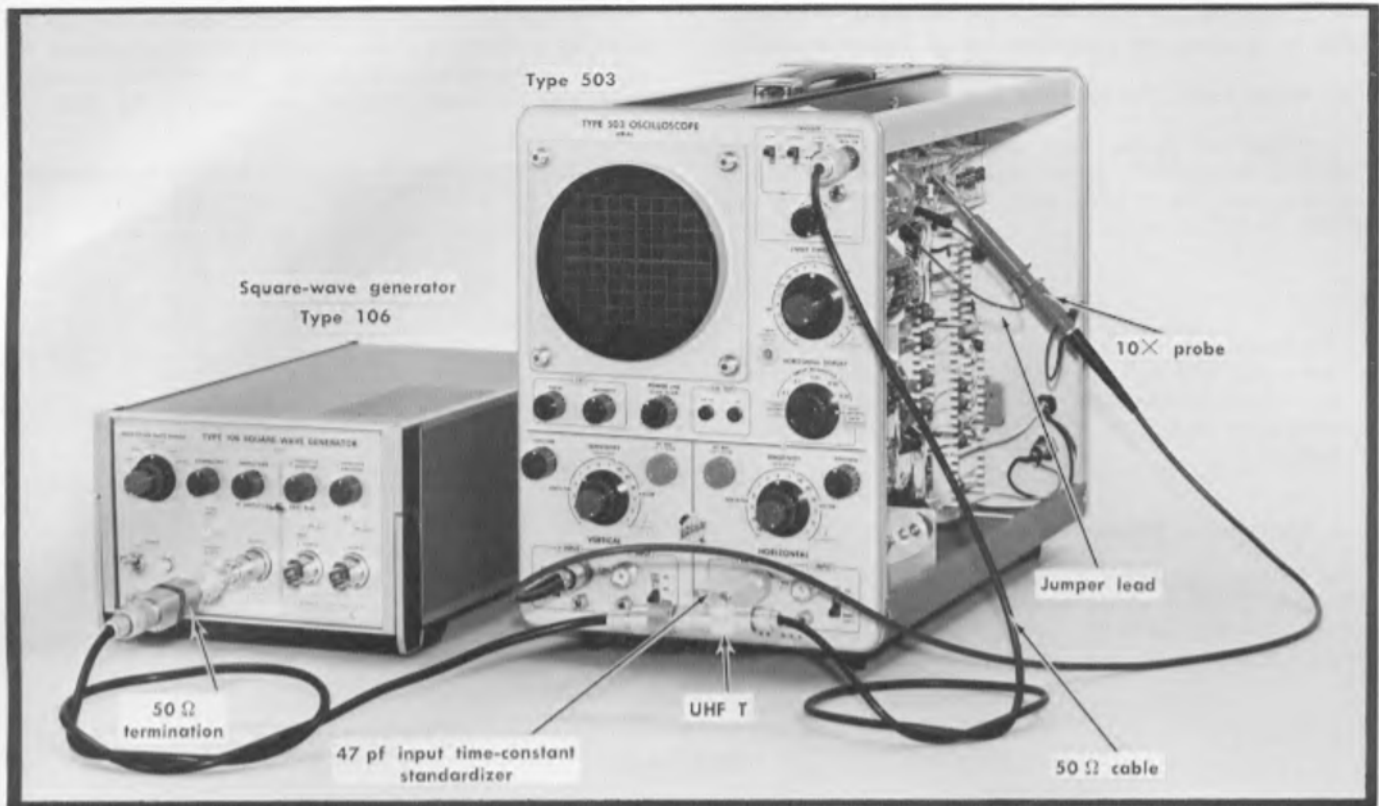

Fig. 6-19. Test setup for Horizontal Amplifier attenuator compensation adjustments.
- a. Test setup is shown in Fig. 6-19.